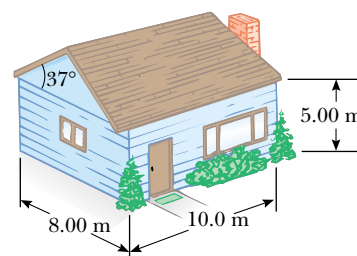

Figure P20.68
68. The average thermal conductivity of the walls (including the windows) and roof of the house depicted in Figure P20.68 is $0.480 \text{ W/m} \cdot ^\circ\text{C}$, and their average thickness is 21.0 cm. The house is heated with natural gas having a heat of combustion (that is, the energy provided per cubic meter of gas burned) of $9\,300 \text{ kcal/m}^3$. How many cubic meters of gas must be burned each day to maintain an inside temperature of 25.0°C if the out-